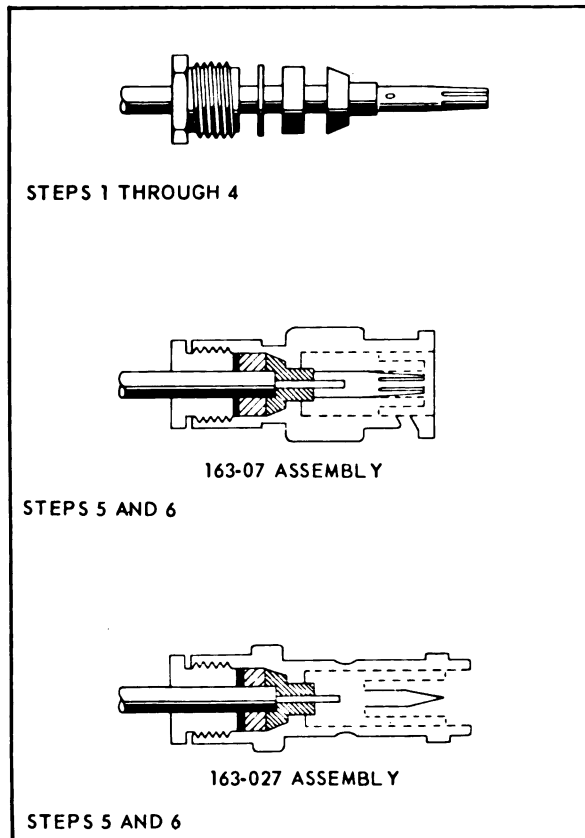

Figure 4-41. Attaching Avien 163-07 and 163-027 Connectors to Unshielded Wire
b. Assembly of Avien 163-07 and 163-027 connectors to AN No. 20 unshielded wire: (See figure 4-41).